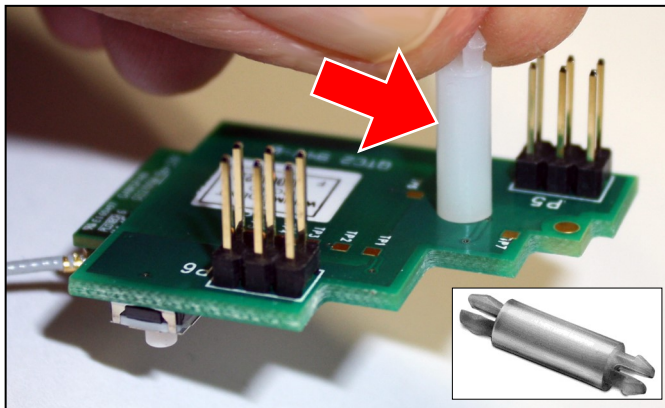

Fig. 5: Standoff (arrow)
9. Insert the plastic **Standoff** into the bottom of the **ISEC-WIFI** (see Fig. 5).